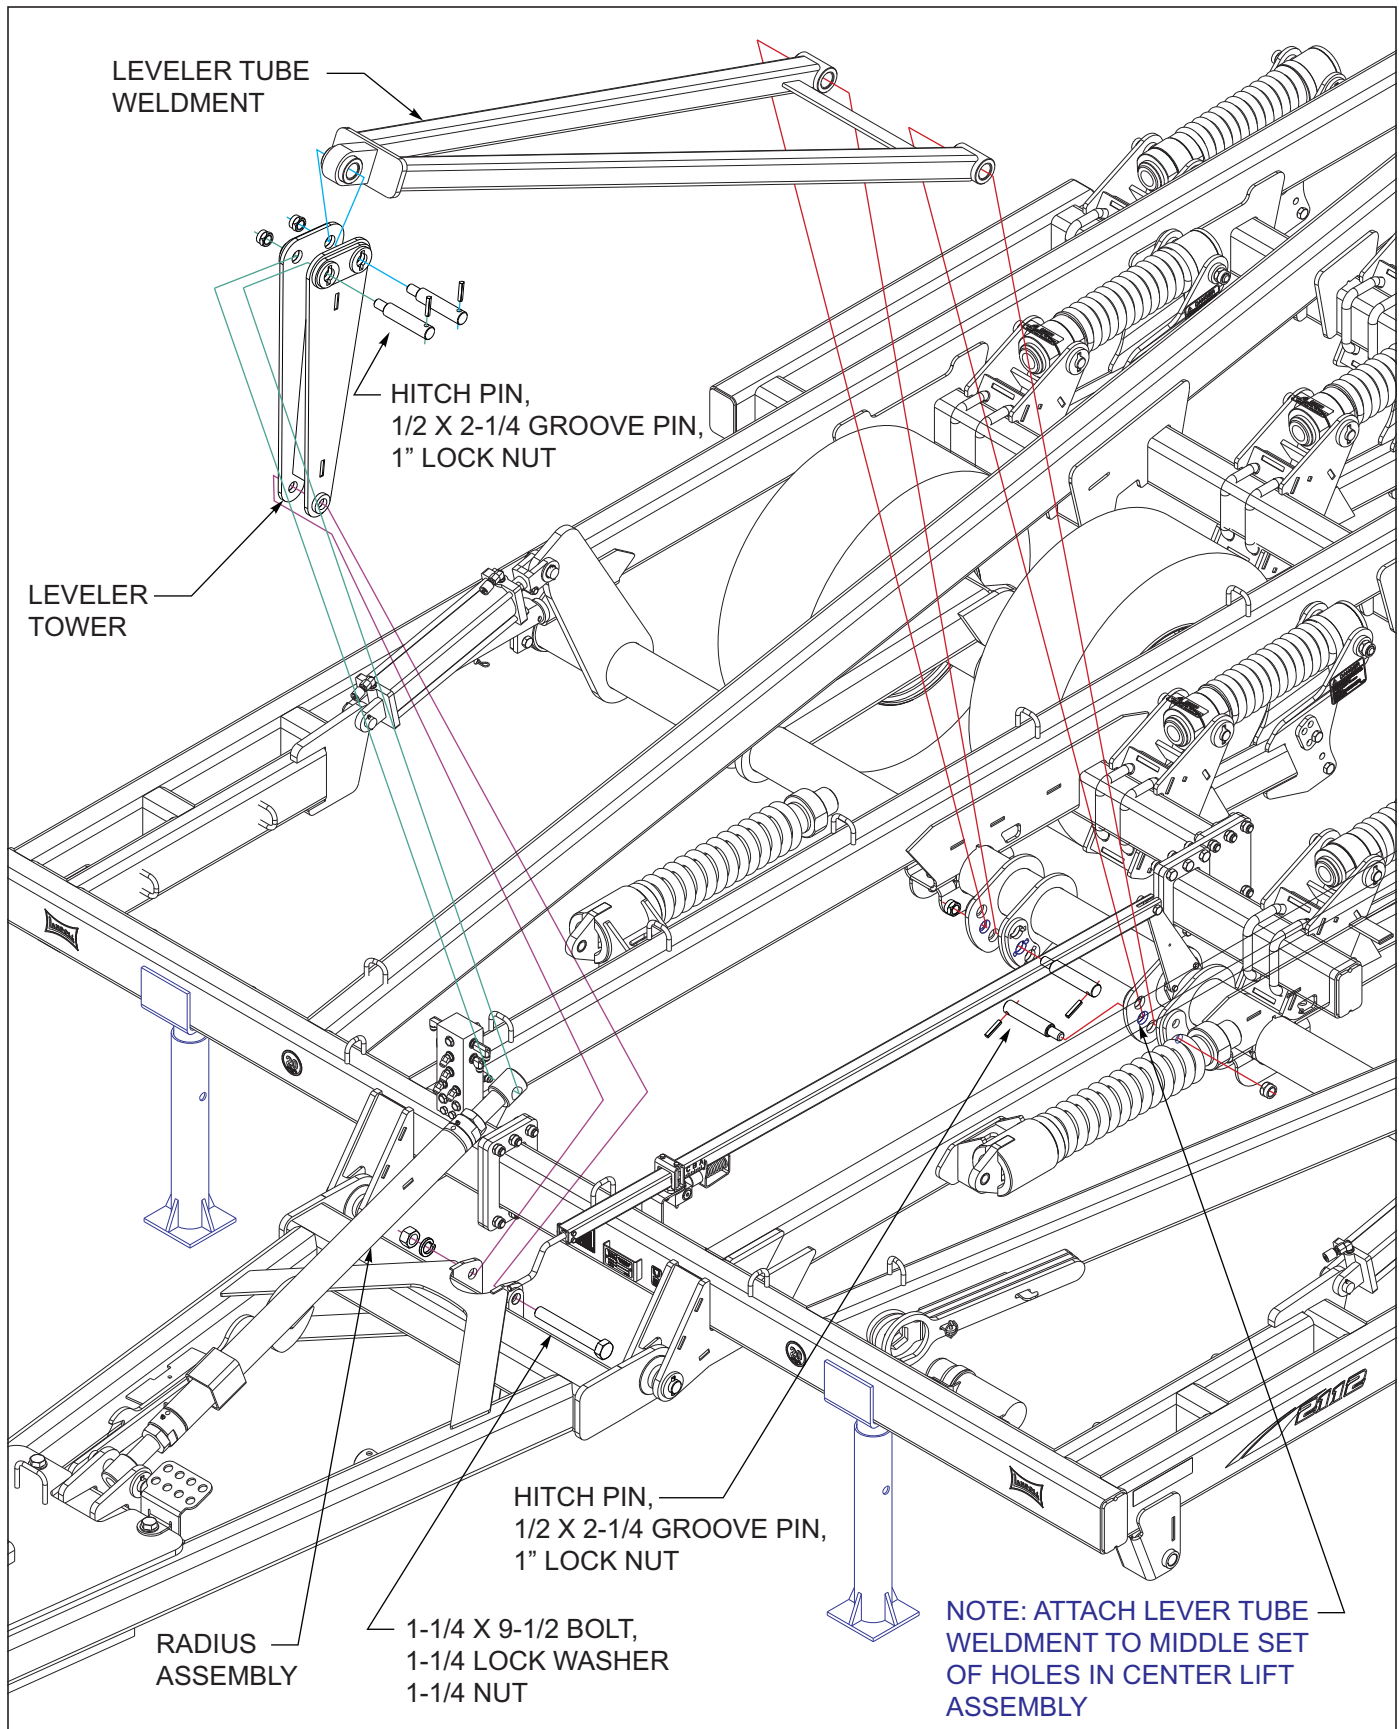

Figure 3-8: Hitch Leveling Assembly
1. Connect narrow end of the leveler tower to the top hole on rear of the hitch assembly using 1-1/4-7 x 9-1/2 hex head cap screw, slotted lock washer, and hex nut See Figure 3-8.